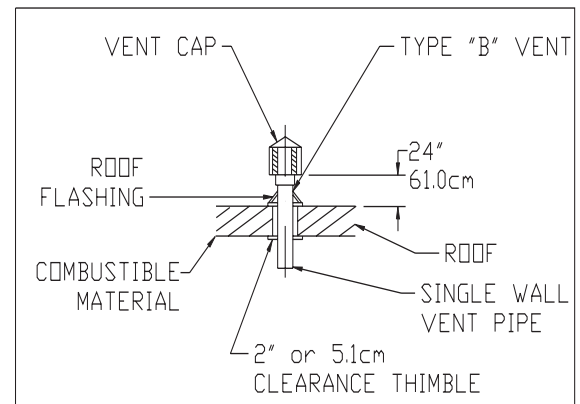

Figure 2.8.1
- * Single-wall galvanized flue pipe or Dura/Connect single wall, flexible connectors must be used. The portion of the flue pipe which goes through combustible material in the building wall or roof must pass through a type "B" vent to maintain clearance (see figure 2.8.1 through 2.8.4).
- * Vertical venting should be a minimum of 24 inches /61cm above the roof in an area that prevents snow blockage. See Figure 2.8.1